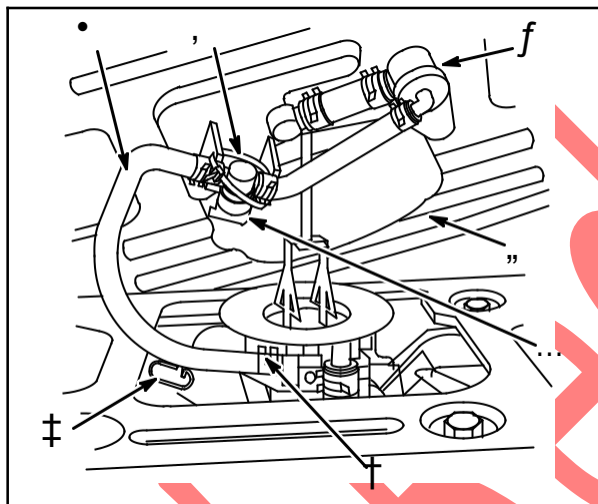

Fig. 13
Inspect the carburetor connection (6) and fuel shut-off valve (5) for leaks or damage, **Fig. 13**.
CAUTION: When replacing fuel filter (3) on Vanguardt engines with the 9 quart fuel tank (4), the fuel hose from the carburetor (1) must be routed **OVER** the fuel shut-off rod (7) if engine is equipped with a Mikuni carburetor, or **UNDER** the fuel shut-off rod if engine is equipped with Nikki carburetor, **Fig. 13**.